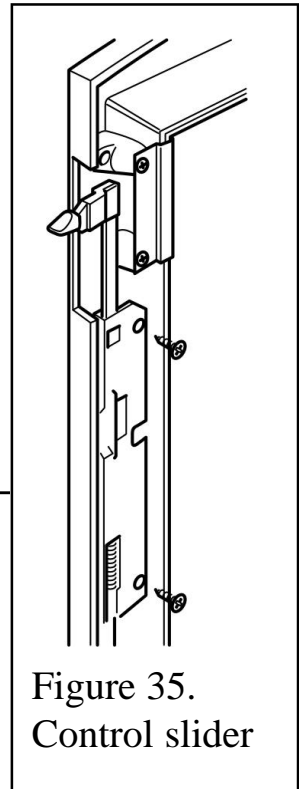

Figure 35.
- A slotted firefront with a **minimum** free area as shown in figure 35 must always be used.
2. Detach the slide unit by removing two screws securing the plastic slide mechanism to the rear of the fascia (See figure 35).